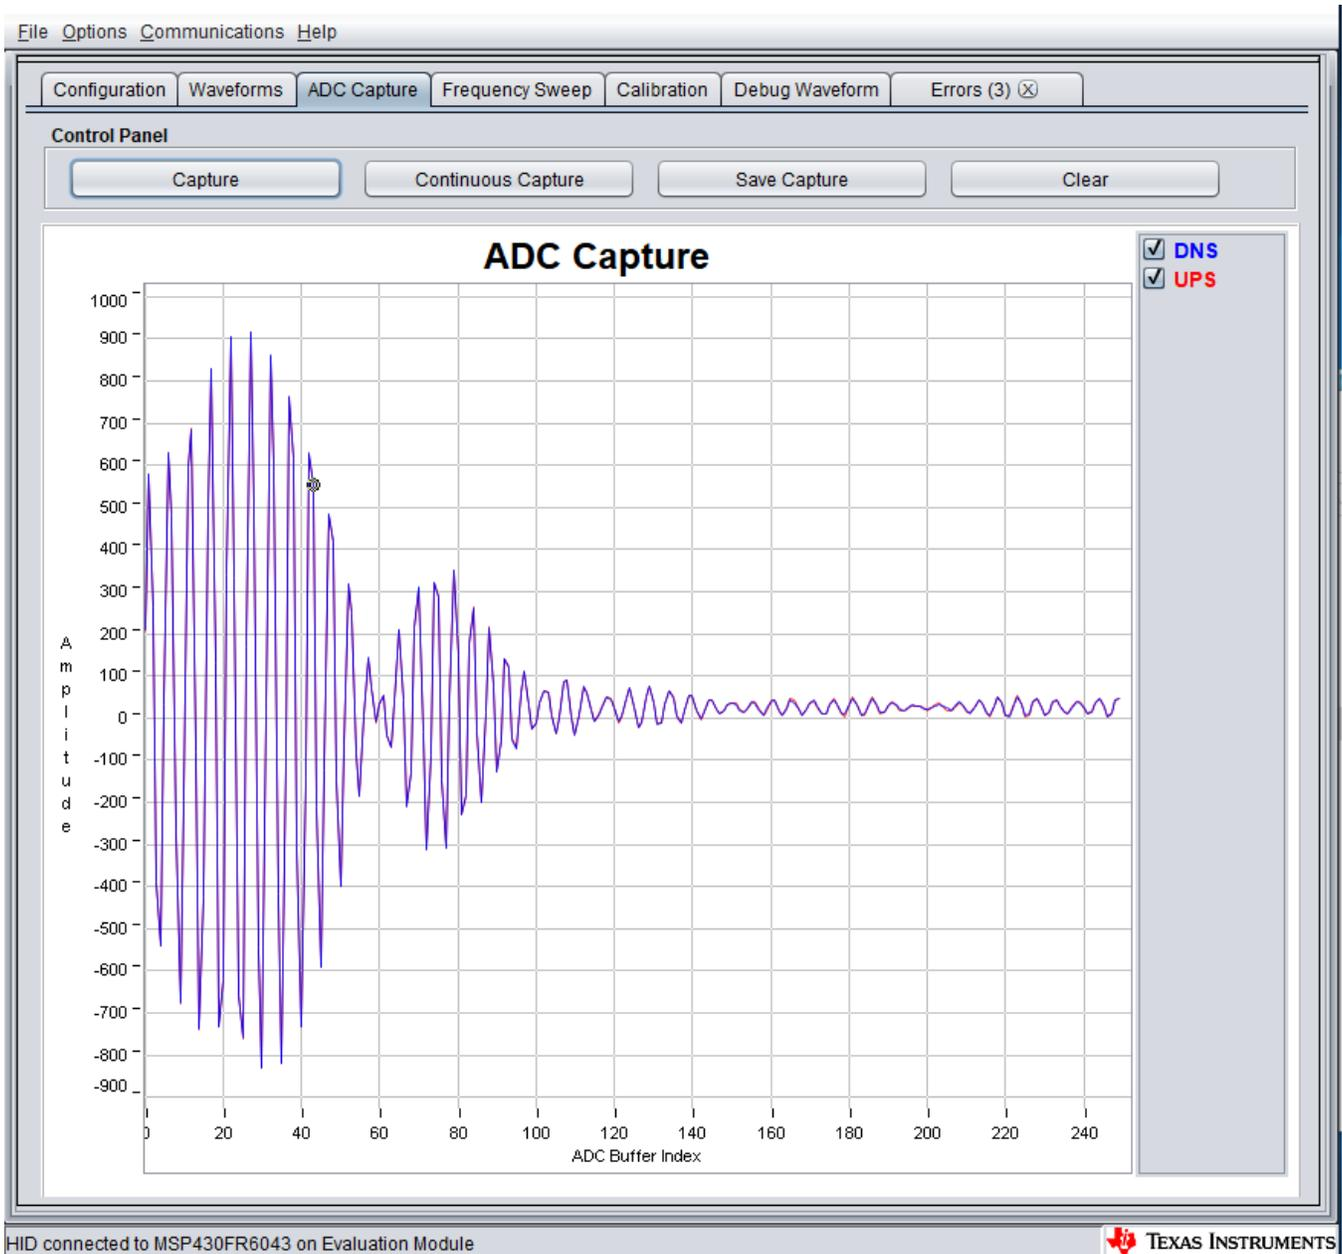
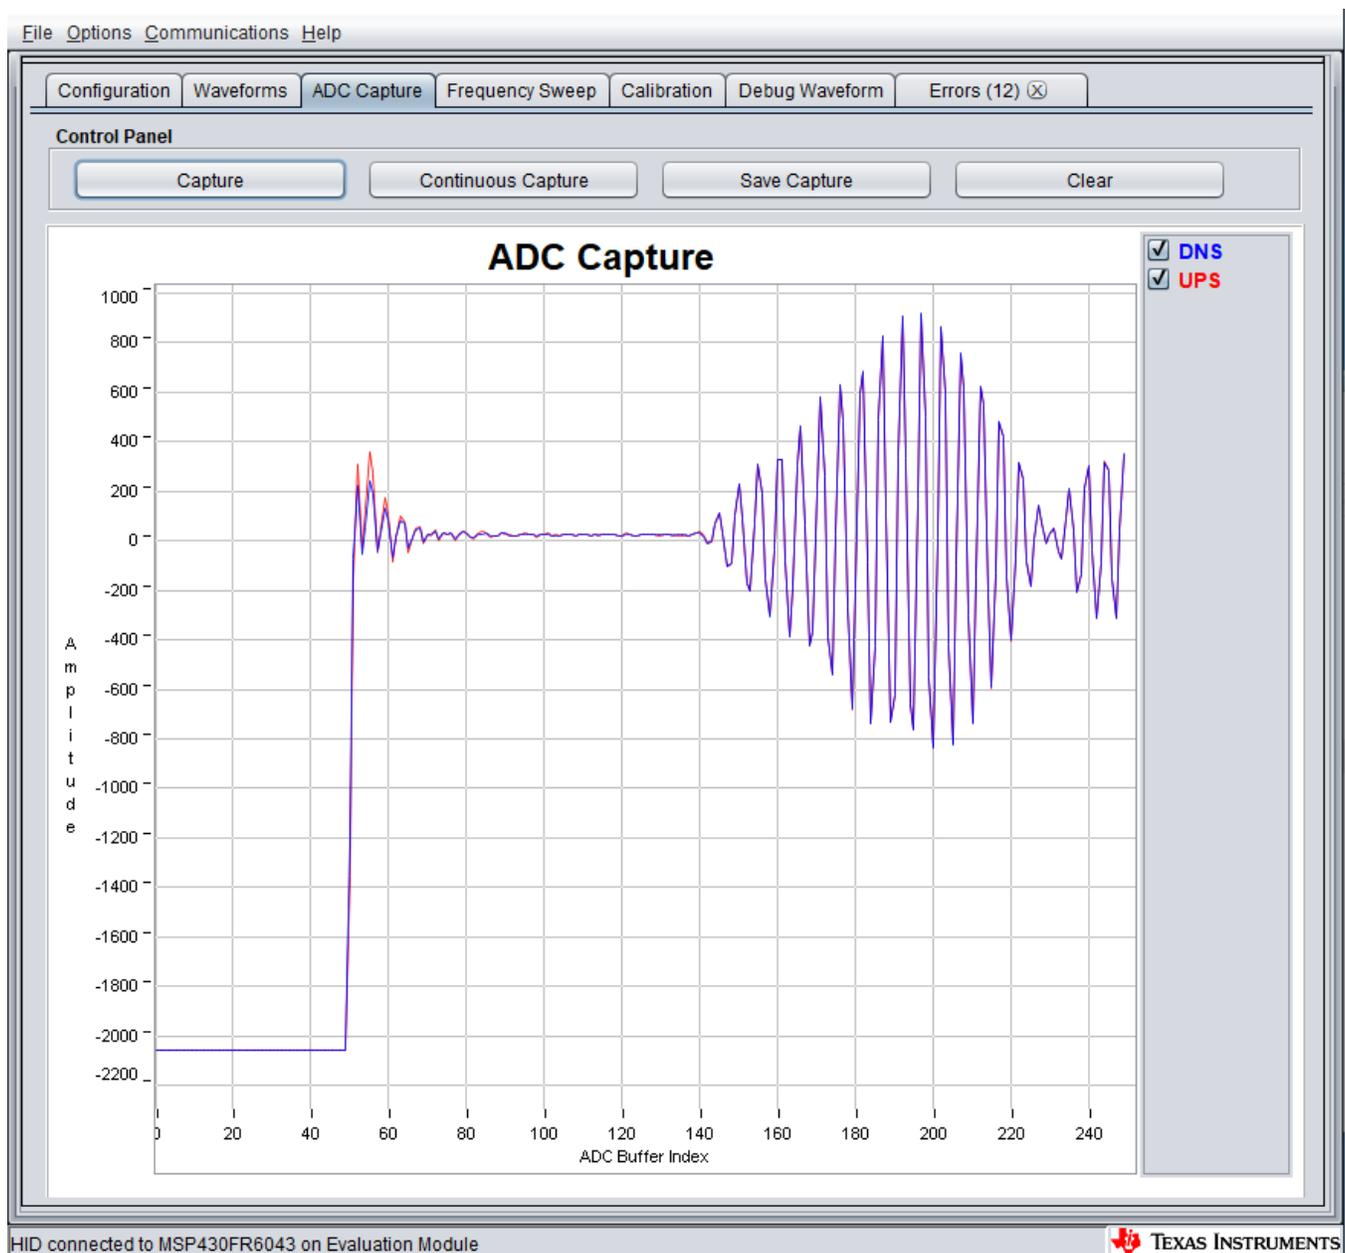

Figure 13. Gap Between Pulse Start and ADC Capture Set Too Long
Figure 14. Gap Between Pulse Start and ADC Capture Set Too Short
- Adjust the Gap between pulse start and ADC capture. Figure 13 shows an example where the gap is set too long. Figure 14 shows an example where the gap is set too short.